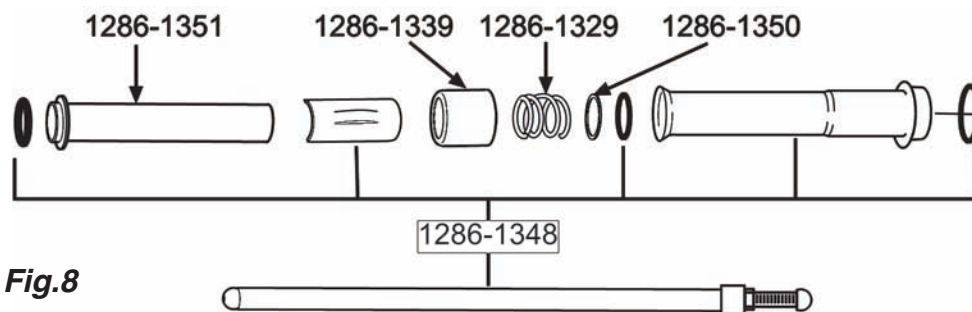

Fig.8
- Install the lock clips – **See Fig. 8**